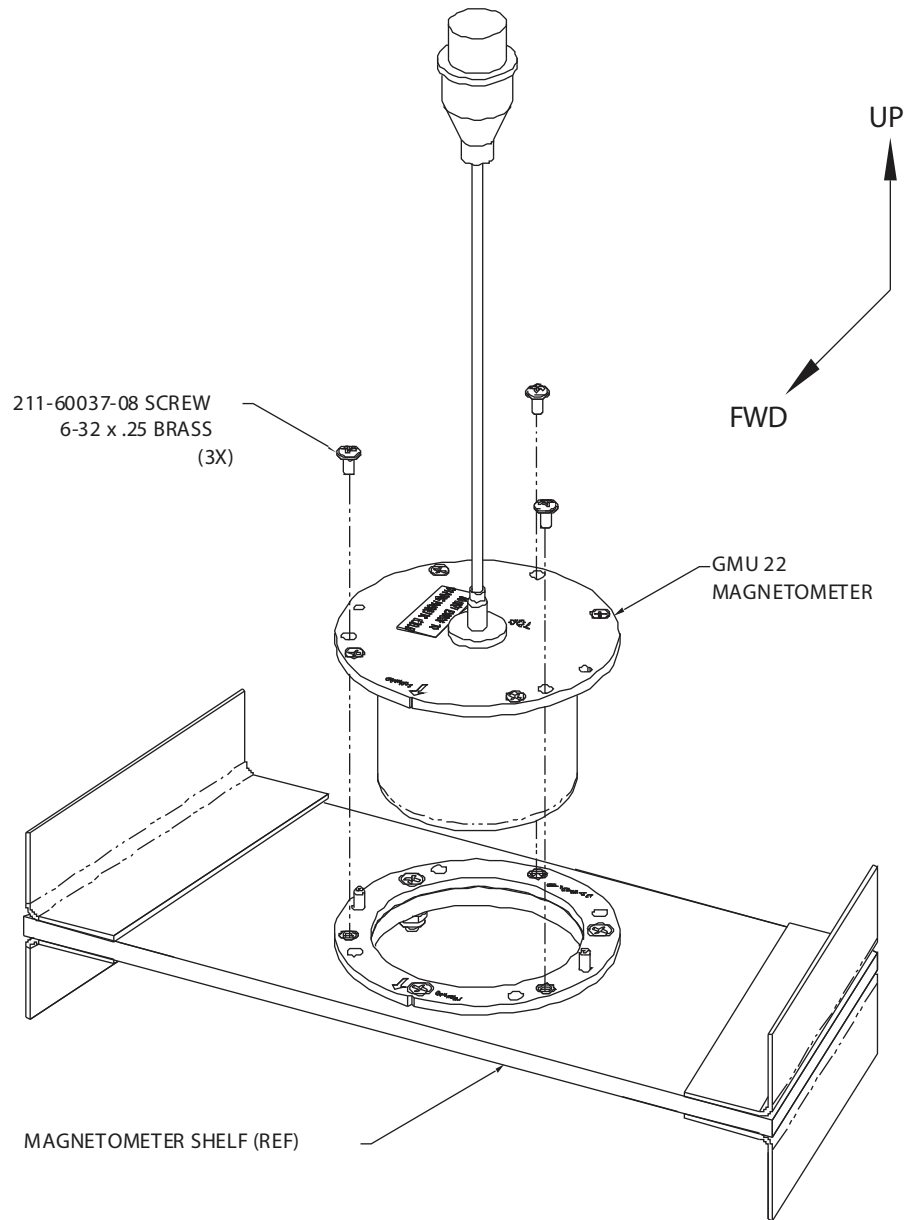

Figure B-28 Installation Of GMU 22 Magnetometer
8. Install the GMU 22 Magnetometer in the installation rack with the hardware provided as shown in Figure B-28.